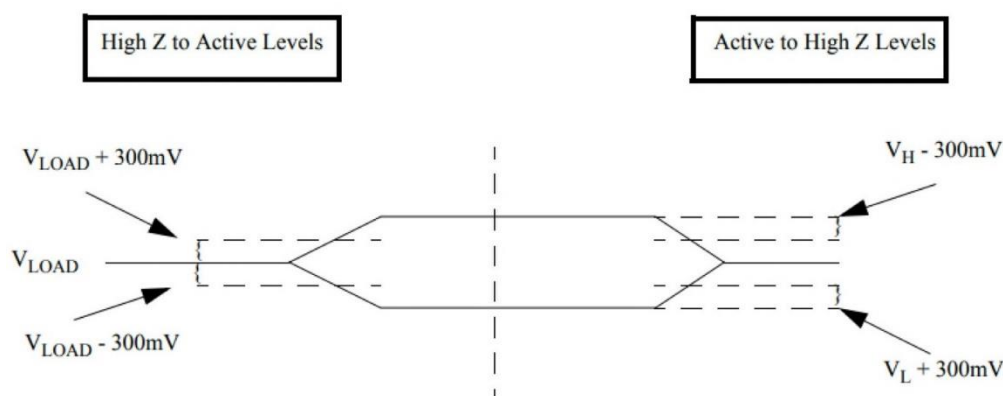

Figure 3. 3.3-Volt SRAM Loading
2. Three-state is defined as a 300mV change from steady-state output voltage (see Figure 3).
2. Three-state is defined as 300mV change from steady-state output voltage (see Figure 3).